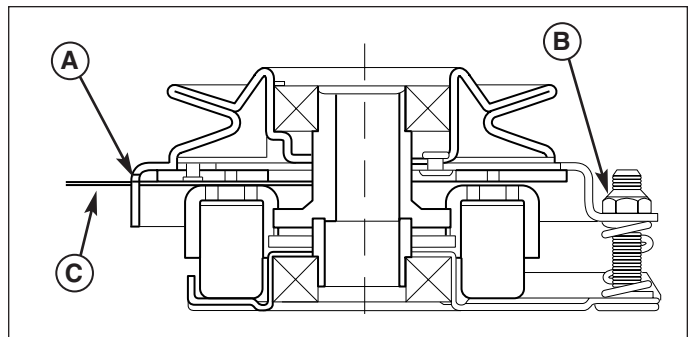

Figure 33. Adjust PTO Clutch
3. Insert a .012"-.015" (2,5-4mm) feeler gauge (C) through each window, positioning the gauge between the rotor face and the armature face as shown in Figure 33.